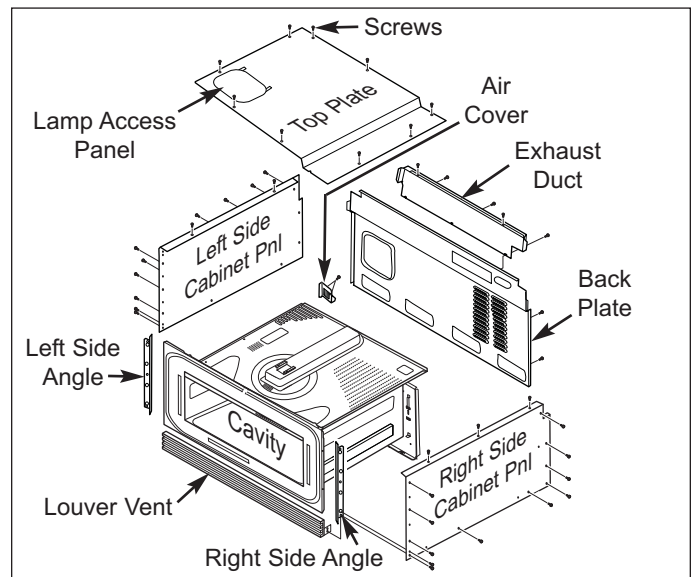

Figure 4-3. Drawer Microwave Exploded View
3. Extract four mounting screws (two on each side) from the left and right side angles to remove the louver vent from the unit (See Figure 4-3). Place vent off to the side, on a flat protected surface.
4. Remove the top cover. (See Figure 4-3).
5. Remove the air cover from the back of the unit, both right and left side angles, then both side cabinet panels (See Figure 4-3).
6. Remove the exhaust duct. Disconnect the ground wire terminal from the grounding peg on the back plate. Then, remove back plate (See Figure 4-3).
2. Locate and remove lamp access panel in top plate (See Figure 4-3 on page 4-6).